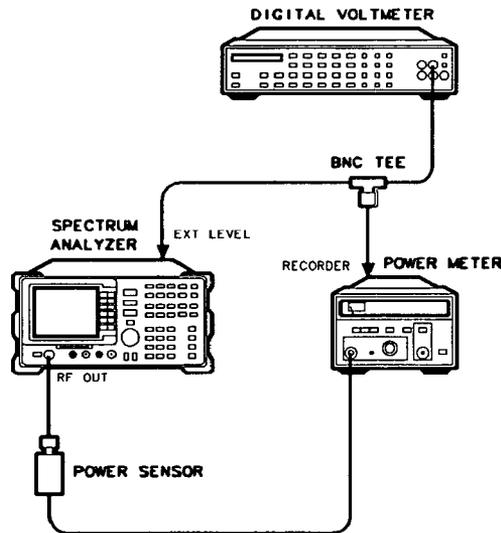

Figure 2-30. External ALC Error Correction Adjustment
6. Connect the equipment as shown in Figure 2-30.